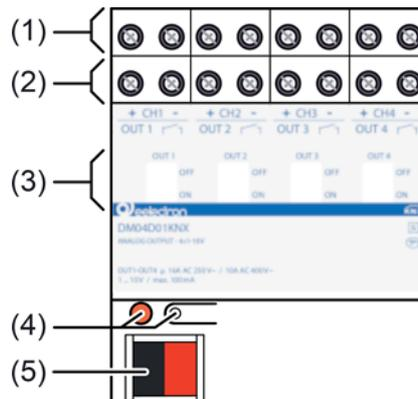

Figure 1
The switching position of the relays is indicated by slide switches (3) on the front panel of the device (Figure 1). At the same time the slide switches can be used for manual operation of the relay outputs. Use a suitable tool for actuation (e.g. thin slotted screwdriver).